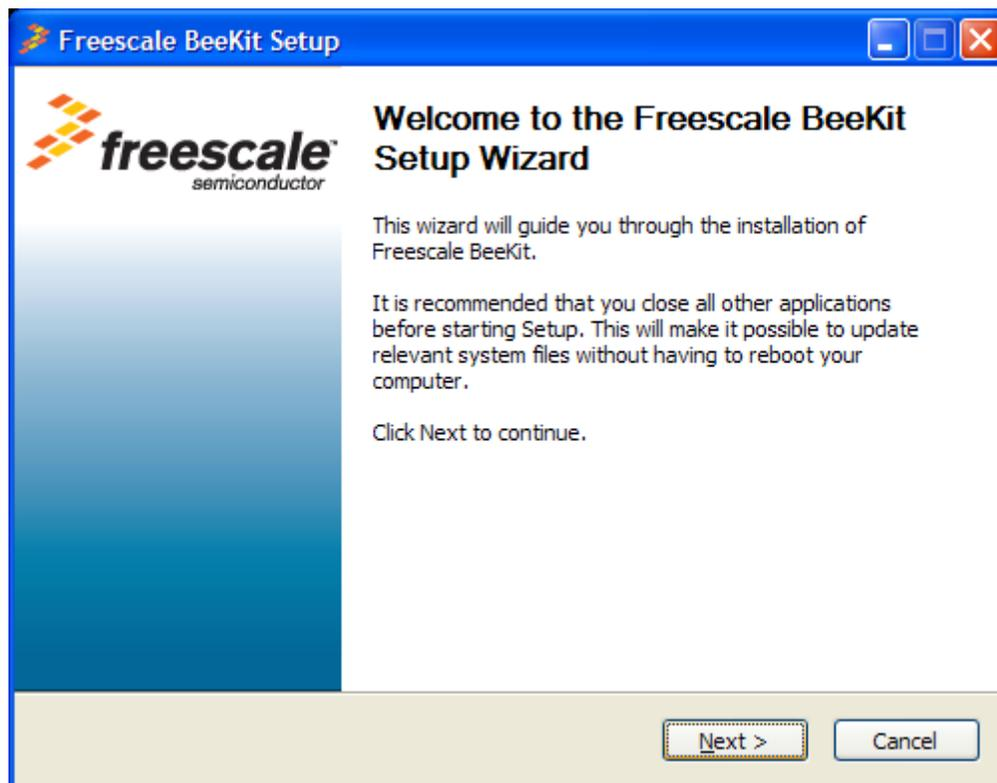

Figure 1-1. BeeKit Installer's Welcome page
2. The installer launches automatically as shown in Figure 1-1. When this window displays the Welcome message, click on the Next button.